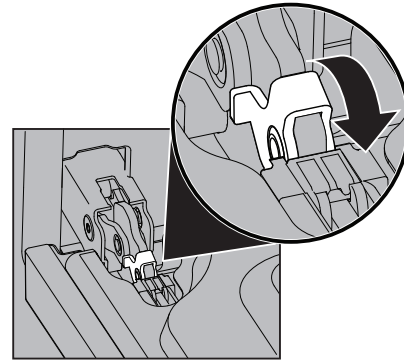

Figure 10: Door hinge lock
2. Pull up the lock located on each hinge support toward front of the oven until the lock stops. You may have to apply a little upward pressure on the lock to pull it up (Figure 10).
4. Push the door hinge locks up toward and into the oven frame on both left and right oven door hinges to the locked position (Figure 10).